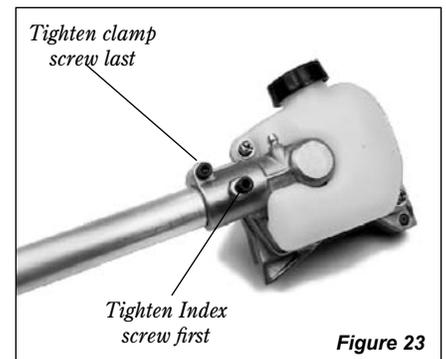

Figure 23
1. Insert the end of the outer tube into the pole saw gearcase clamp assembly and push until it bottoms. The outer tube should go into the gearcase about 1-1/2 in. (38 mm). If the outer tube stops before bottoming, rotate it until you feel the inner mainshaft (driveshaft) splines engage the gearcase. Then push the outer tube all the way in. See Figure 23.